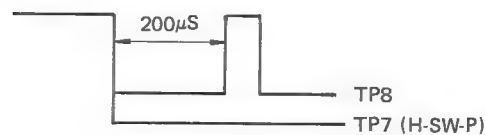

Figure 41
3. Selecting (-) sync slope with the oscilloscope, adjust R751 to meet the requirement given in Figure 41.